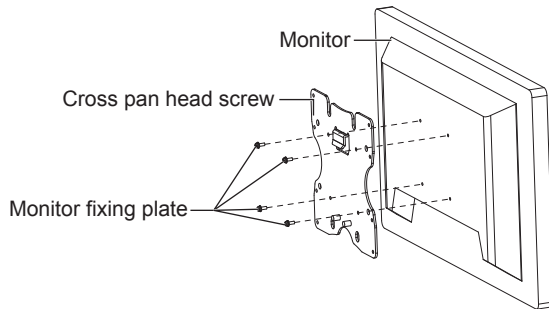

Figure 15 Installing Monitor Fixing Plate
- a. Use four M4 \times 20 cross pan head screws or four M4 \times 25 cross pan head screws according to different monitors to fix the monitor fix plate onto the back of the monitor; as shown in Figure 15.